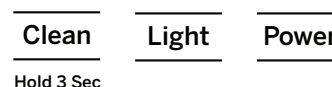

Figure 2
2. Plug in Opal and then hold the 'Clean' button for 3 seconds to initiate the cleaning process. See Figure 2.